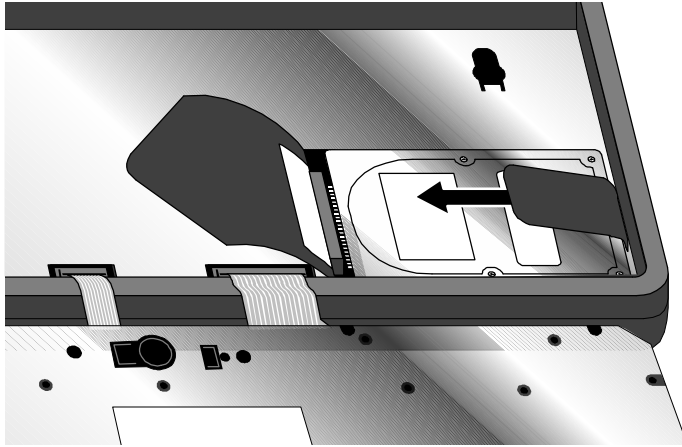

Figure 24 - Inserting the Hard Drive
6. Holding the new hard drive by its edges, lay it in place. Grasp the **right** flap of the insulator and pull to the left to engage the connection between the hard drive and the computer. See Figure 24 on page 58. If the hard drive's connectors do not engage the computer's connectors, pull the hard drive back out and try again. Then fold the insulator sheet back over the hard drive.